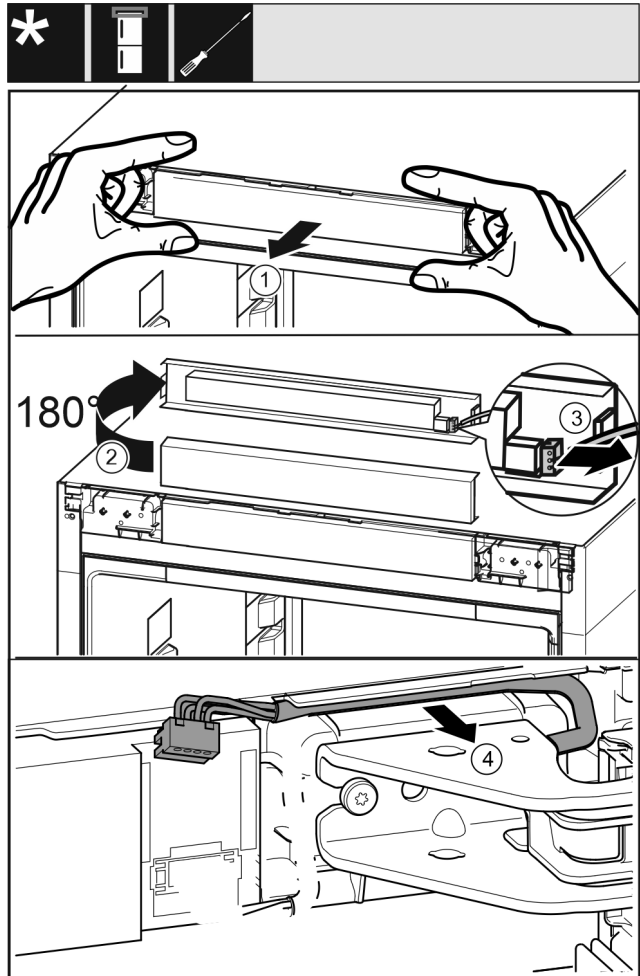

Fig. 19
- ▶ Pull out the control panel of the appliance to the front carefully. Fig. 19 (1)
- ▶ Turn the control panel upwards by 180°. Fig. 19 (2)
- ▶ Push the latching lug back and pull out the plug carefully. Fig. 19 (3)
- ▶ Carefully pull out the cable over the bearing bracket out of the guide. Fig. 19 (4)